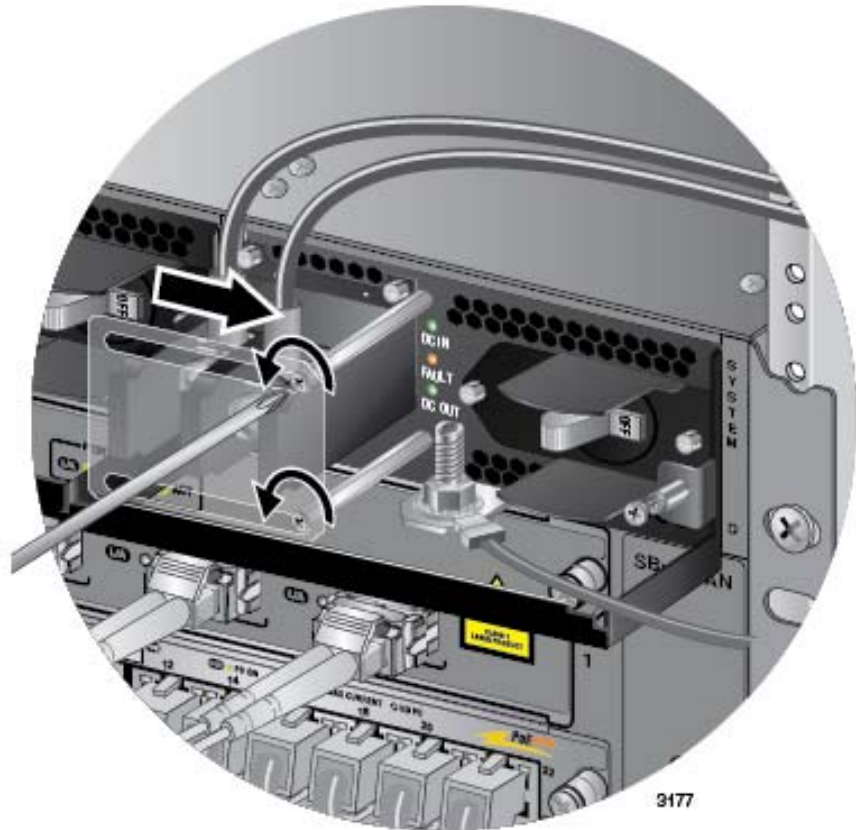

Figure 173. Opening the Plastic Window on the Terminal Block
4. Use a #1 screwdriver to loosen the two screws that secure the plastic cover over the terminal block and slide the cover to the right. You may need to slightly lift the locking handle to access the bottom screw. Refer to Figure 173 on page 296.